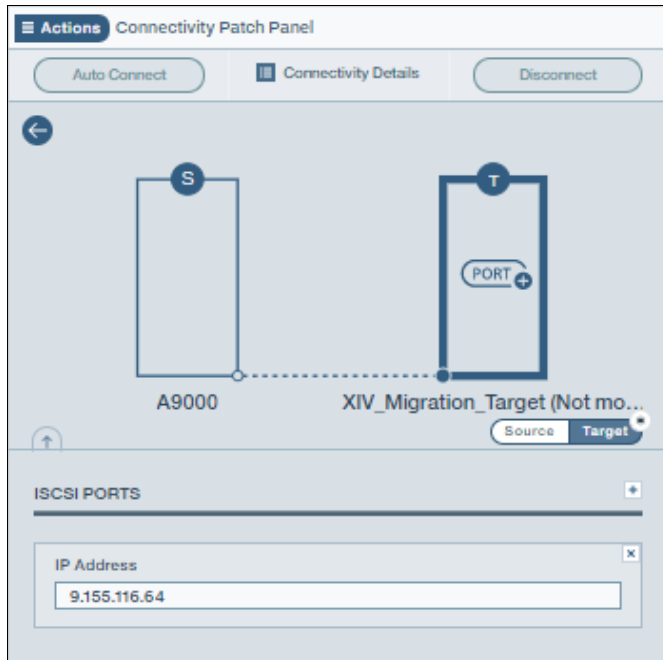

Figure 8-12 Define the IP ports for the target system
- a. Enter the IP addresses for the iSCSI connectivity of XIV to define the connection between the two systems, as shown in Figure 8-12.